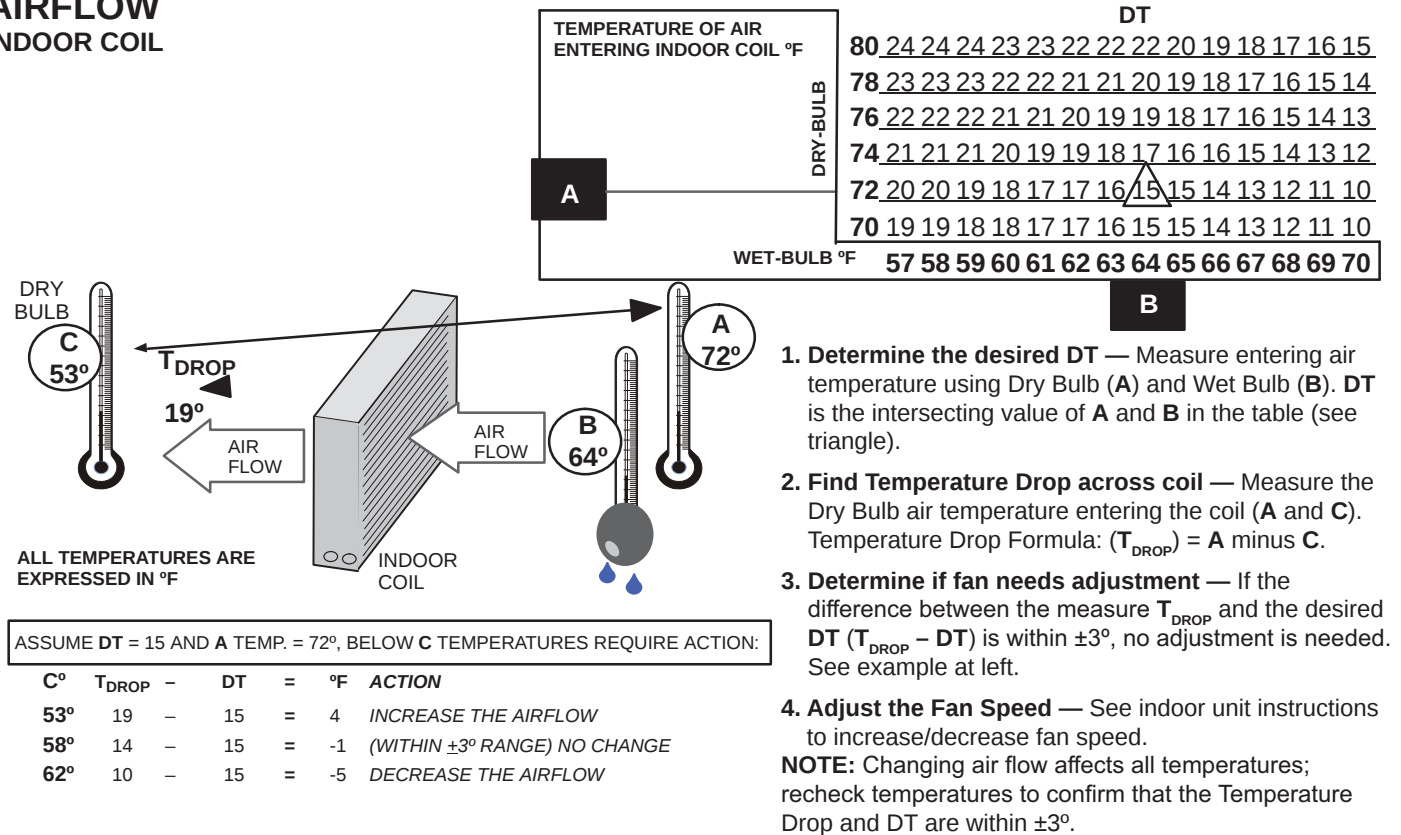

Figure 49. Checking Indoor Airflow over Evaporator Coil using Delta-T Chart
- 2 - Check and adjust indoor airflow as described in **Figure 49**.
Check airflow using the Delta-T (DT) process using the illustration in **Figure 49**.